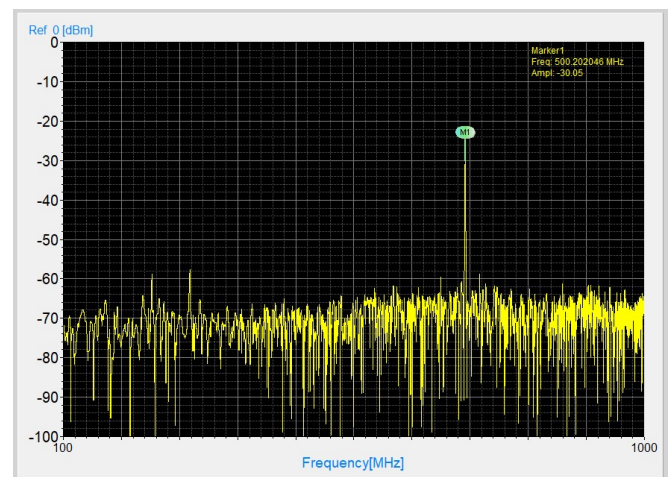

Fig.17 Start freq 100MHz, Stop freq 1GHz Log sweep
- Click **Run** to switch the sweep **Off**. The display will pause, allowing settings to be changed more easily. Enter **100 MHz** as the **Start Frequency** and **1000 MHz** as the **Stop Frequency** in the Frequency menu. Click **Send** to apply the new sweep range to the device. After all settings are arranged, click **Run** again to switch it **On**. The HB Log Frequency Sweep will resume with the updated parameters (see Fig. 17).